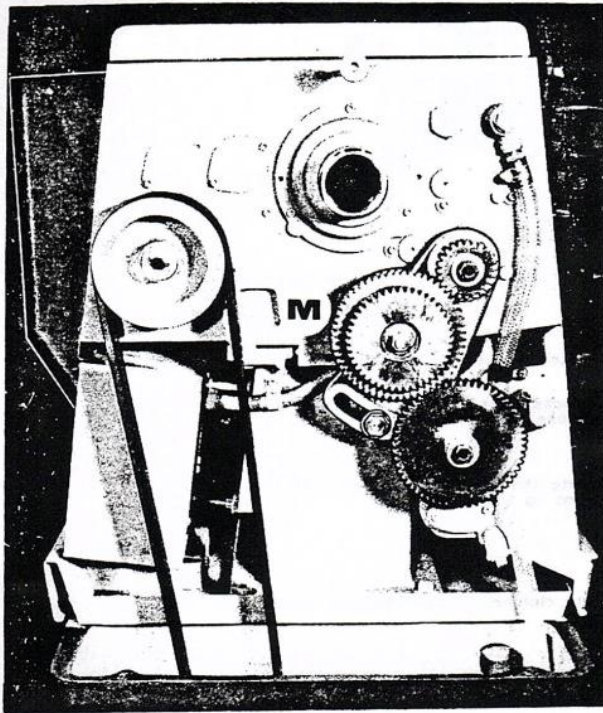

Fig. 19.
Drive from headstock to gearbox is transmitted through a gear train enclosed by the headstock end-guard. Intermediate gears are carried on an adjustable swing-frame (M) shown in Fig. 19. Gears must be thoroughly cleaned before fitting and backlash maintained at .005 in. for correct meshing. Lubricate gears regularly with thick oil or grease.